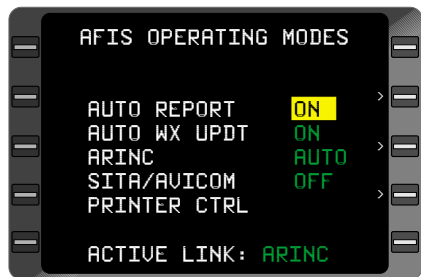

Figure 7-112
6. **ENTER** Key - DEPRESS to turn **ON** the **AUTO REPORT** function. (Figure 7-112)